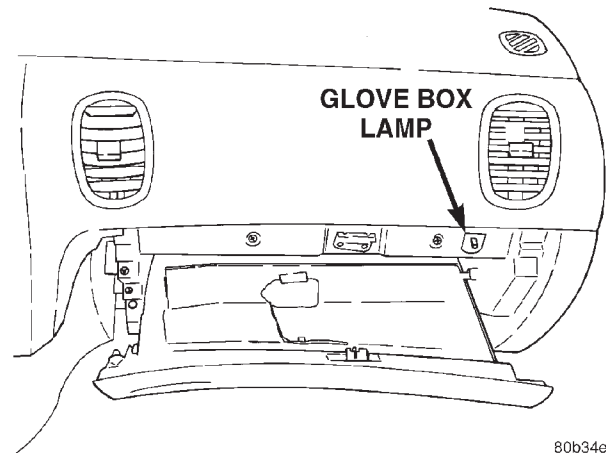

Fig. 15 Glove Box Lamp/Switch
(2) Open the glove box door, and pull out the glove box lamp/switch assembly from upper right hand corner of opening (Fig. 15).